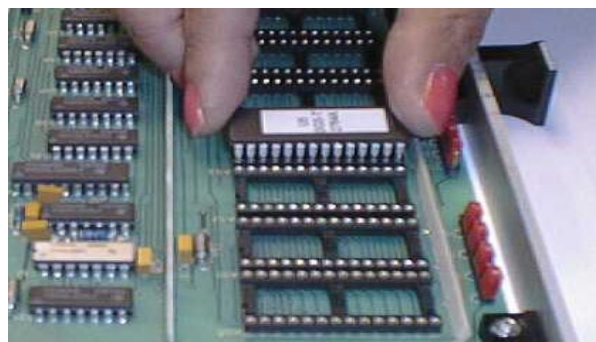

Fig.12b Place the datachip on the socket
- (4) Check all pins for correct fit to the socket (Fig.12b).